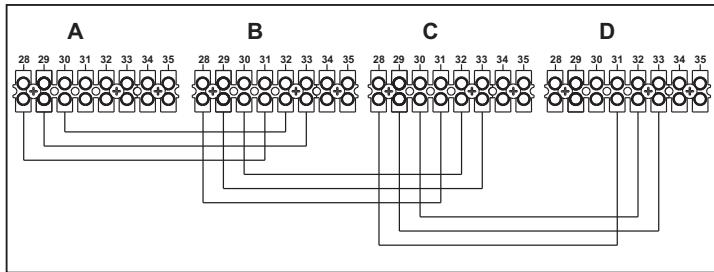

fig. 33 - Connection in cascade
1. Connect the modules as shown in fig. 33 (example with 4 modules)